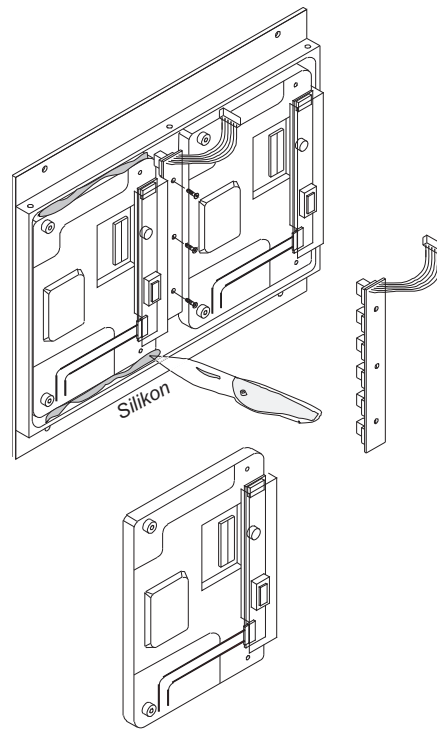

Fig. 4-18: Disassembling a broken display
9. Disassembling the broken display (fig. 4-18)